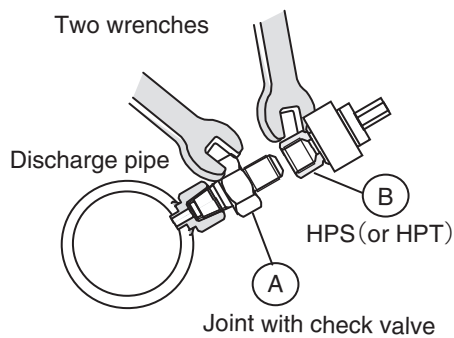

Fig. 1 Use two wrenches when removing and installing.
- ※Loosen flare nuts A and B using two wrenches. (Fig. 1)
- ※Tighten flare nuts A and B using two wrenches. (Fig. 1)